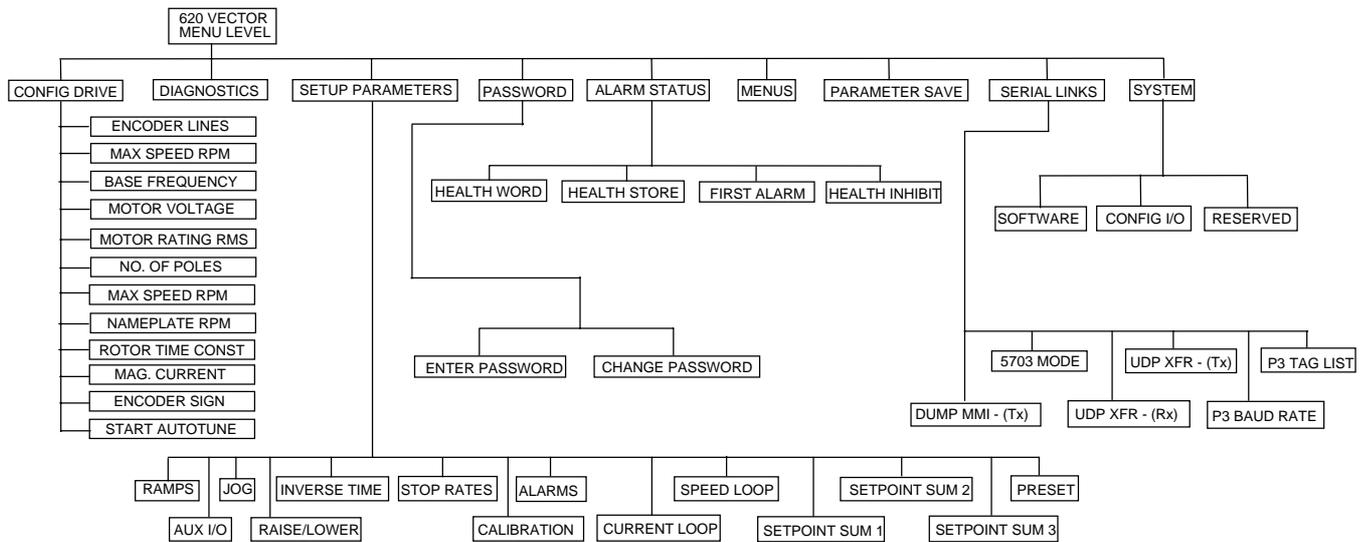

Figure 4.3 - Main Menu Options
The MMI comprises several hundred menu options (shown in Figure 4.3). The    and  buttons navigate through the menus.
The options available to the user from the main menu are given in Figure 4.3. These options are briefly described in the following paragraphs which include references for further details.
1. Press **(M)** **(M)**. The display will show '**MENU LEVEL / DIAGNOSTICS**'. Pressing the **(Δ)** and **(∇)** buttons will enable you to move around the top level menu. Press **(Δ)** until the display shows **CONFIGURE DRIVE** (if you miss **CONFIGURE DRIVE** or any other menu item, either use the **(∇)** button to get back or keep pressing **(Δ)** until **CONFIGURE DRIVE** is displayed again). You will be navigating the Initial Setup menus shown at the extreme left of Fig 4.3.